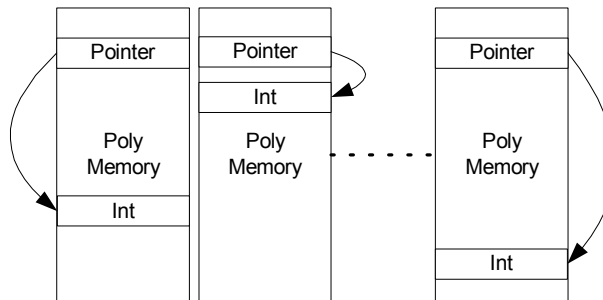

Figure 19.Representation of poly int * poly
- Figure 19 shows how `poly int * poly` can be visualized.